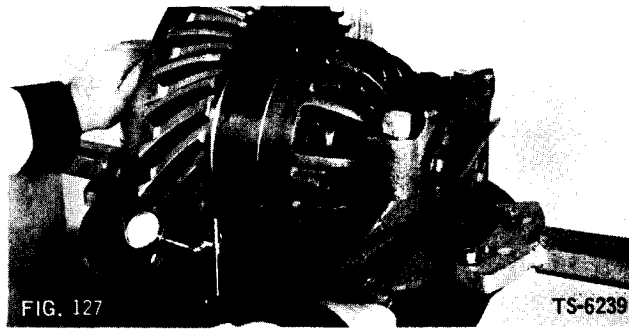

FIG. 127
8. Use a dial indicator to check backlash between ring gear and pinion shaft gear. Backlash is adjusted by moving ring gear toward or away from pinion shaft gear as shown in Fig. 127. Move ring gear by loosening one adjusting nut and tightening opposite lock nut. When loosening one lock nut and tightening opposite, move each lock nut same distance so that bearing adjustment made in previous paragraph is not disturbed. Adjust position until gear backlash is between .010" and .014" if new gear set is used, or adjust to backlash noted at disassembly for old gears.